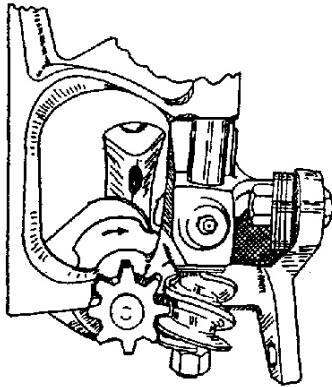

Figure 107. Knotter
1. Trip the knotter clutch and swing the needles up through the bale chamber by turning the flywheel counterclockwise by hand. The needles should be adjusted left or right so that there is 0 to 1/32" clearance between the needle and the knotter bill hook pinion, (see Figure 107). Adjust by sliding the needle left or right on the needle yoke.